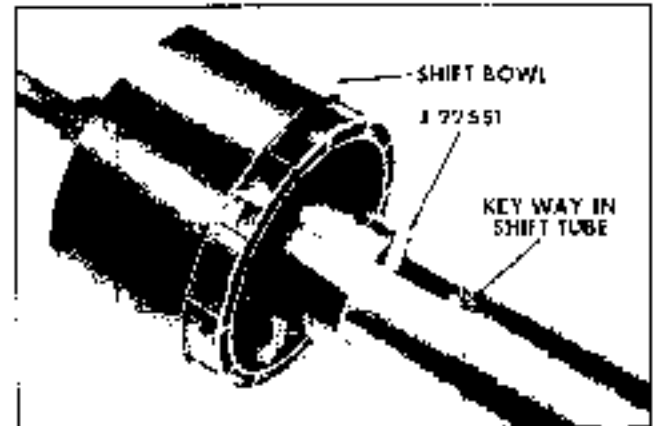

Fig. 9-28 Installing Tool J 22551
19. Remove shift tube assembly from bowl with tool J 22551. Insert the blade end of the tool in the notch of shift tube which is below the bowl key. Pilot sleeve in upper end of shift tube. Force shift tube out of bowl by turning out (Figs. 9-28 and 9-29). If the shift tube is not completely freed from the bowl when tool J 22551 is removed, finish removal by hand and withdraw shift tube from lower end of mast jacket.